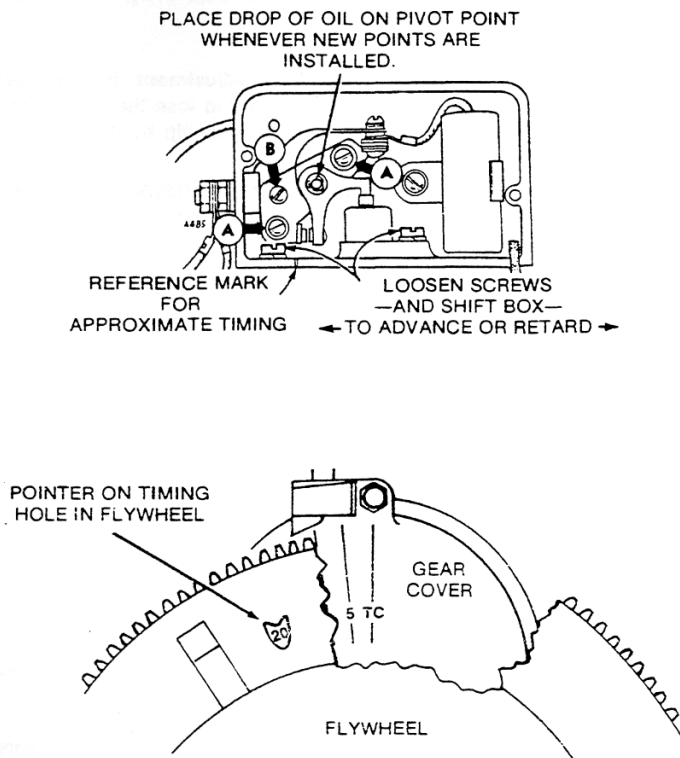

FIGURE 16. IGNITION POINTS AND TIMING
Ignition breaker points, Figure 16, must be correctly gapped. Crank engine to fully open breaker points (1/4 turn after top center). Loosen locking screws (A) and turn cam (B) to adjust. Tighten breaker points and recheck gap.